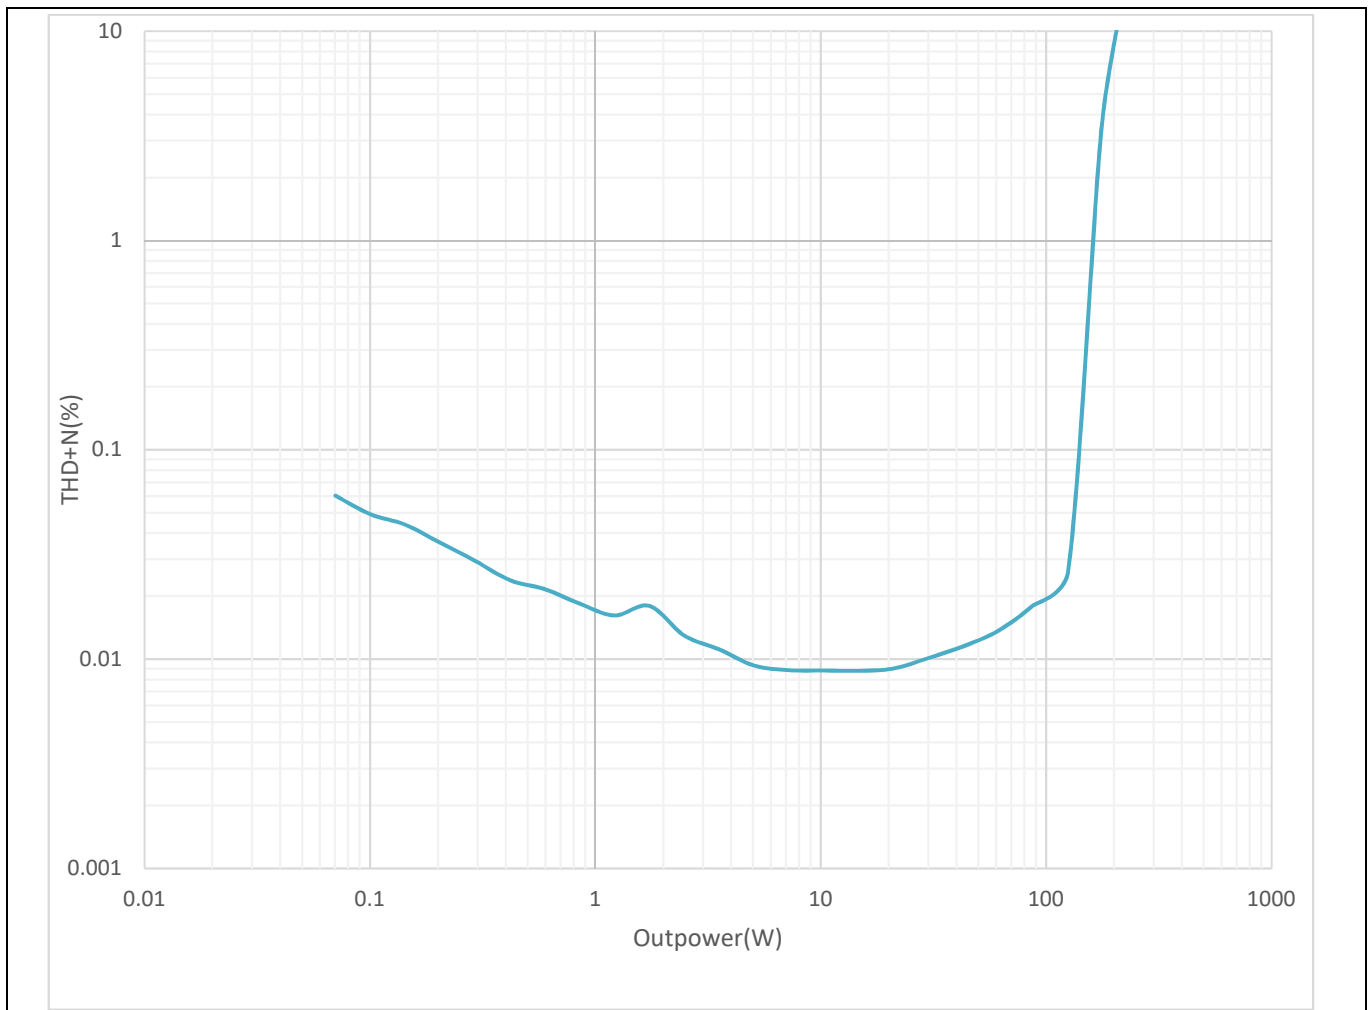

Figure 4 Power vs. THD+N 8  $\Omega$  load
8. Run the AP tests as shown in Figures 4 to 11, below.